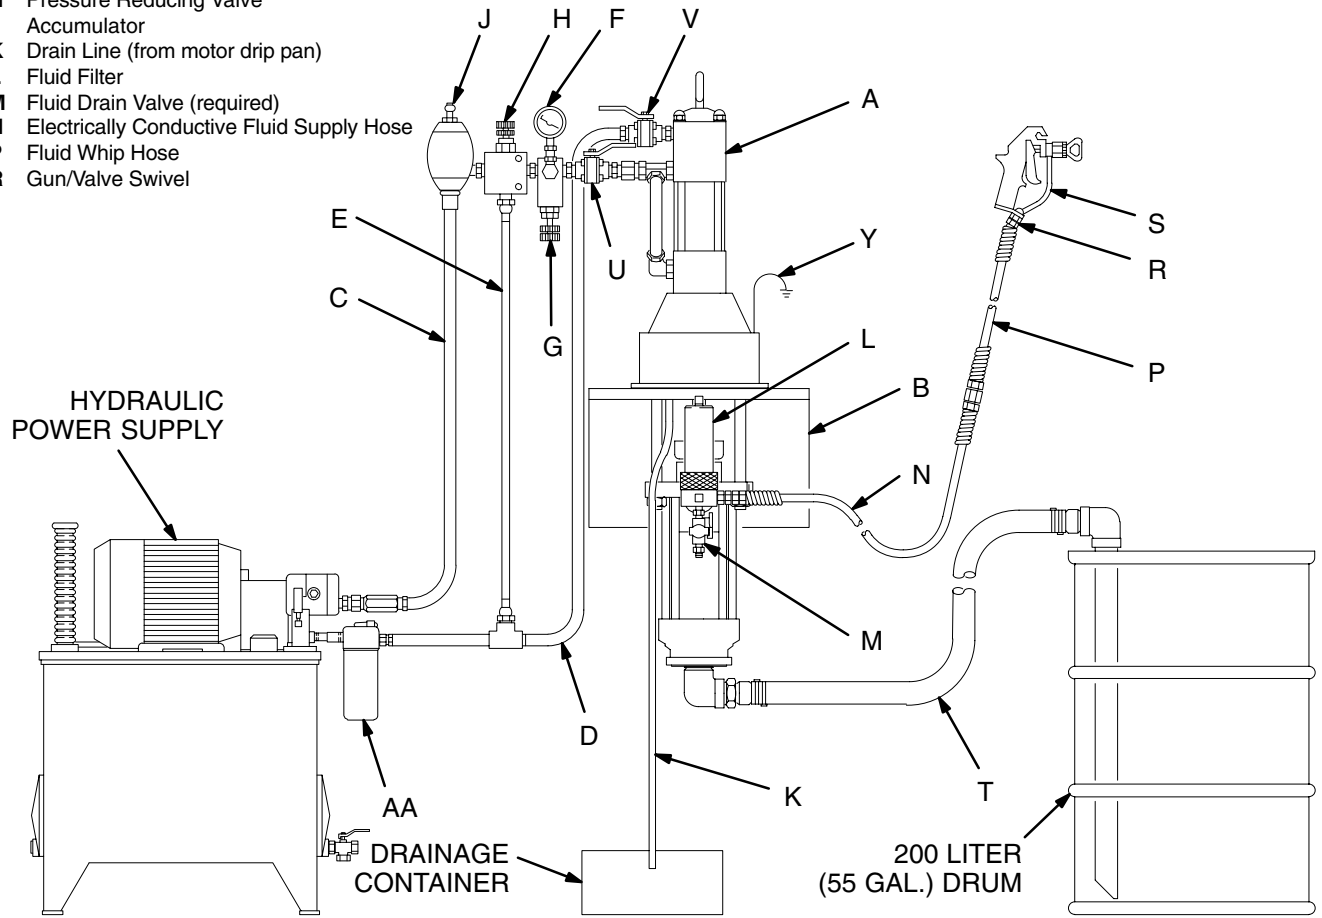

Fig. 4
Fig. 4 is only a guide for selecting and installing system components and accessories. Contact your Graco distributor for assistance in designing a system to suit your particular needs.
Mount the pump (A) to suit the type of installation planned. Fig. 4 illustrates a wall-mounted system. Pump dimensions and the mounting hole layout are shown on pages 38 and 39.
On the hydraulic supply line (C), install the following accessories in the order shown in Fig. 4, using adapters as necessary:
- **A shutoff valve (U)** isolates the pump for service.
- **A fluid pressure gauge (F)** to monitor hydraulic oil pressure to the motor and to avoid overpressurizing the motor or displacement pump, and **a pressure- and temperature-compensated flow control valve (G)** to prevent the motor from running too fast and possibly damaging itself.
- **A pressure reducing valve (H), with a drain line (E)** run directly to the hydraulic return line (D).
- **An accumulator (J)** to reduce the hammering effect caused by the motor reversing direction.
On the hydraulic return line (D), install the following accessories in the order shown in Fig. 4, using adapters as necessary:
- **A shutoff valve (V)** isolates the pump for service.
- **A filter (AA)** of 10 micron size.
Install the following accessories in the positions shown in Fig. 4, using adapters as necessary:
1. Refer to Fig. 4 on page 11. Connect the suction kit (T) to the pump's fluid inlet, and place the tube into the fluid supply.
3. Make certain that the supply line shutoff valve (U) and the return line shutoff valve (V) are closed.
5. Hold a metal part of the gun/valve (S) firmly to the side of a grounded metal pail and hold the trigger open.
6. Open the return line shutoff valve (V) *first*, then slowly open the supply line shutoff valve (U).